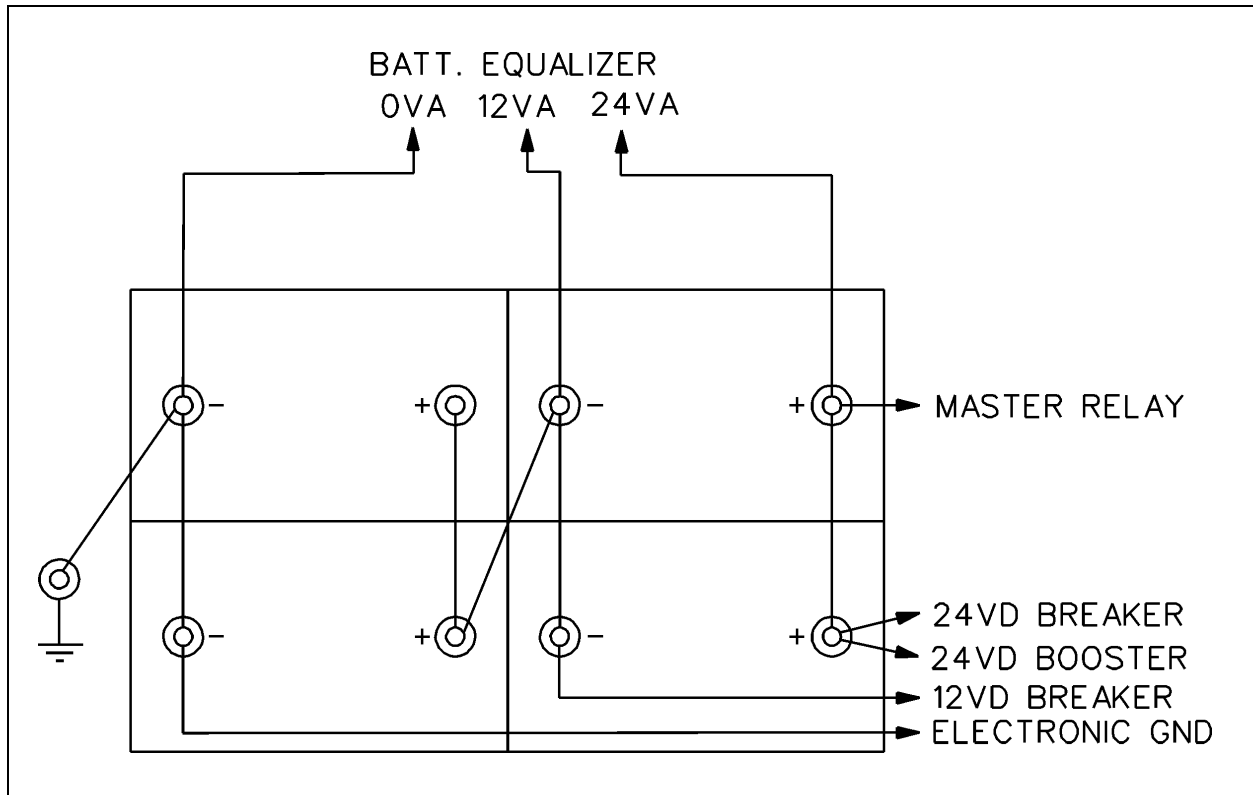

FIGURE 15: BATTERY CONNECTIONS
1. Connect a voltmeter, ammeter, and a variable load resistance as illustrated in figure 15.